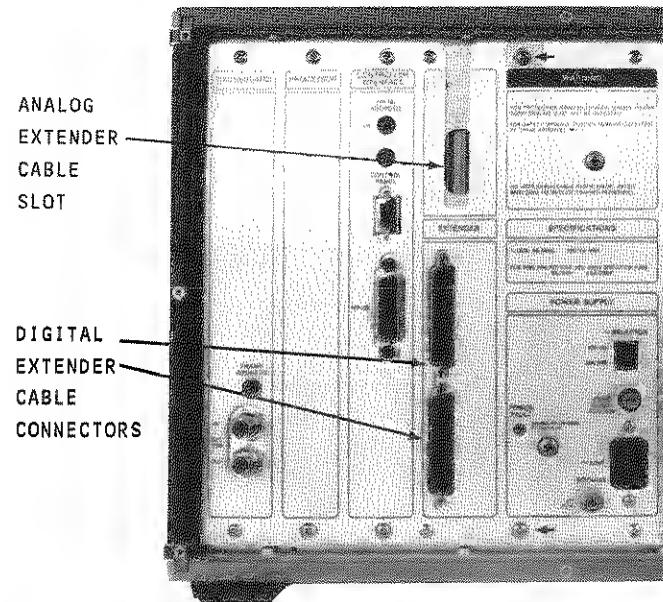

Figure 18. Bus Access or Extender Module Location.
- a. Remove the metal silkscreened panel which covers the CROSSGUARD through POWER SUPPLY system modules. Six no. 2 pozidriv screws hold this panel in place and are shown in Figure 18.
- c. Insert the Bus Access (or Extender Module) into the empty slot next to the power supply system module (see Figure 18).